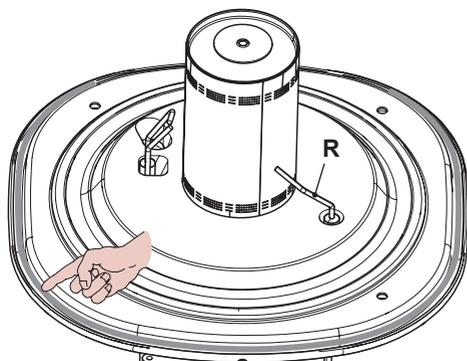
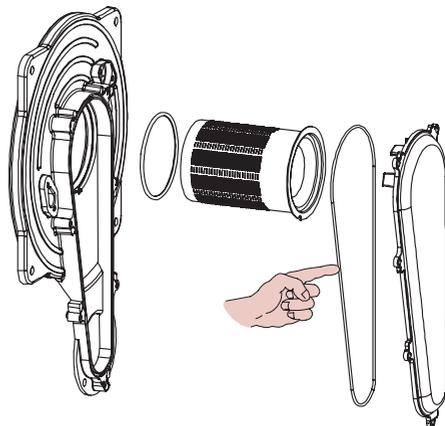

Fig. 9.13
Fig. 9.15
- The detection electrode R in Fig. 9.13 also functions as a sensor for the correct drainage of the condensate. Should the mentioned electrode come into contact with the condensate water present within the combustion chamber it sends the boiler into safety lockout. Therefore, should the insulation be wet or deteriorated, provide for the substitution of the same.
Caution: After any periodical servicing or disturbance the combustion chamber silicon seal (Fig. 9.13) and the Air-gas duct gasket (Fig. 9.15) must be fully inspected and replaced at the discretion of the service engineer.